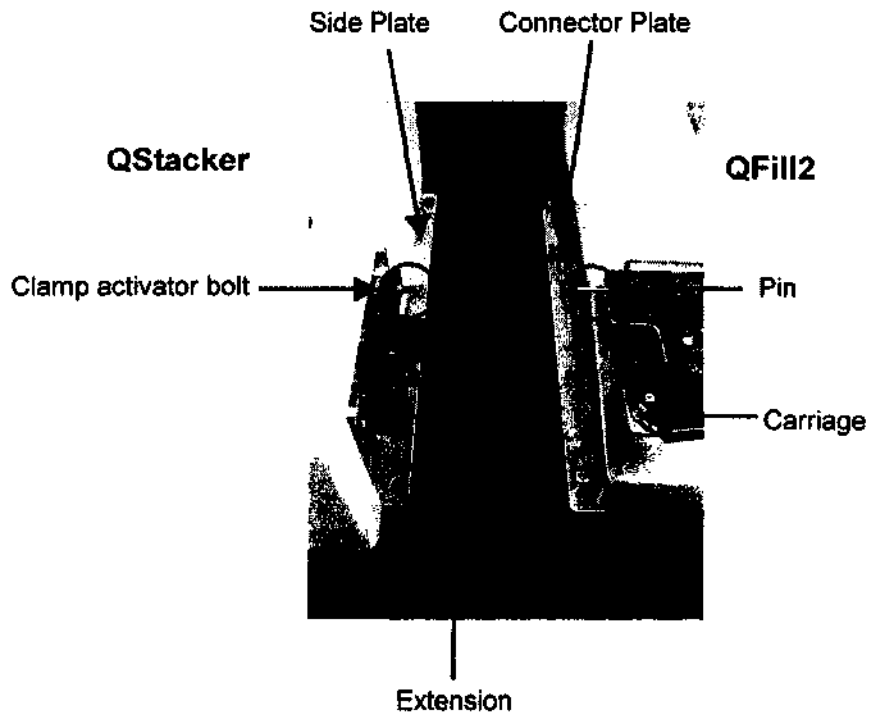

Figure 7 Top view of **QStacker** and **QFill2** prior to connection.
4. Place the **QStacker** next to the **QFill2** so that the slots on the side plate fit over the pillars on the connector plate (Figure 7).
12. As the carriage moves to the left to pick up a WellPlate, the pin on the base plate strikes the clamp activator bolt on the **QStacker** (Figure 7), causing the plate retaining clamp to open. Adjust the clamp activator bolt so that the plate retaining clamp opens sufficiently to allow plates to move onto the base plate from the stacker.